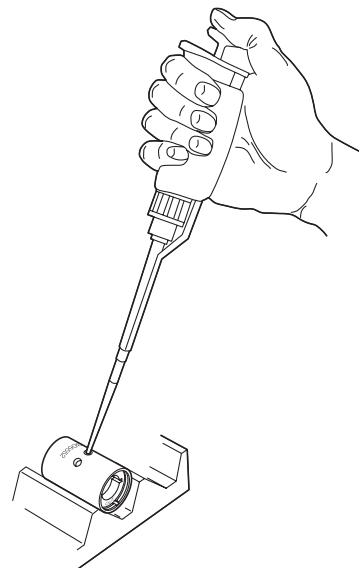

Figure 4. Remove Residual Liquid from the Centerpiece Using a Pipette
5. Remove as much as possible of the residual liquid from the centerpiece using a pipette and gel-loading tips (see Figure 4).